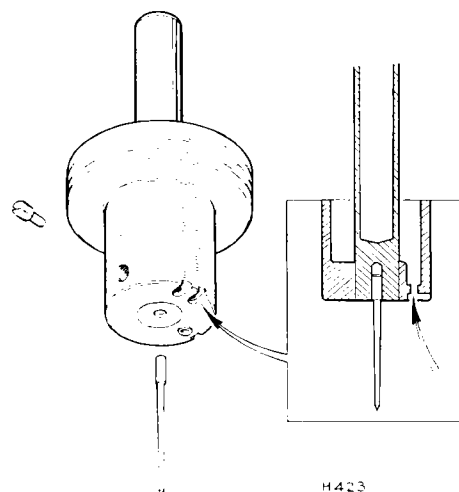

Fig. 65. Piston and needle assembly
12. Refit the needle (8) to the piston assembly, ensuring that the lower edge of the needle shank is level with the bottom of the piston rod as shown on Fig. 65 (inset). Fit a new needle locking screw (7) and tighten. Invert the suction chamber and spin the piston assembly inside it to check for needle concentricity.
13. Check the piston key for security in the carburettor body. Refit the piston assembly to the body and replace the piston spring (5) over the piston rod. Fit the suction chamber (3) and retaining screws (4) taking care not to "wind-up" the piston spring during assembly. Tighten the screws evenly.